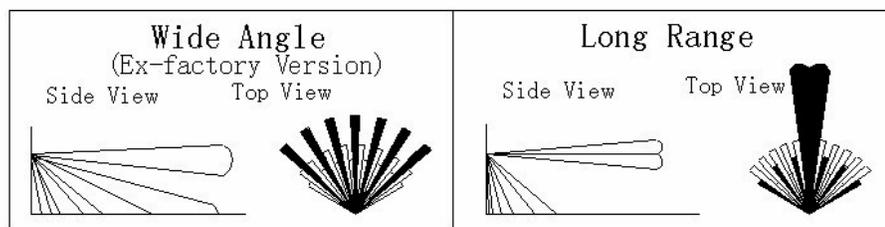

Fig 2
5. Adjust the vertical pattern angle per figure 2, if desired.